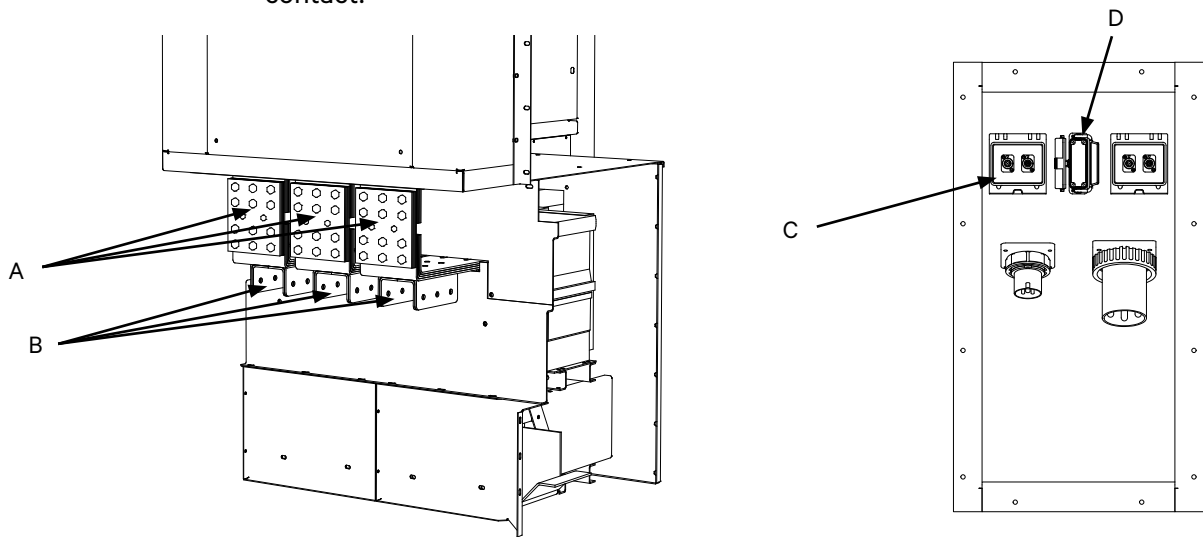

Figure 2-4 The instrumentation selection switch switches between LV and HV instrumentation.
- 1. Remove LV link bars from inside main power termination compartment. See figure 2-4 point A.
- 2. Connect LV supply on test cables to the LV terminals. See figure 2-4 point B.
- 4. Connect Hand-held/Sigma PC into IN socket of “Sigma Sockets LV Use”. See figure 2-4 point C.